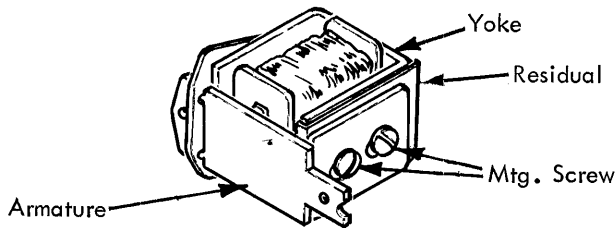

FIGURE 142.17 Residual
- b. Check to see that the residual is flush against the yoke (Fig. 142.17).